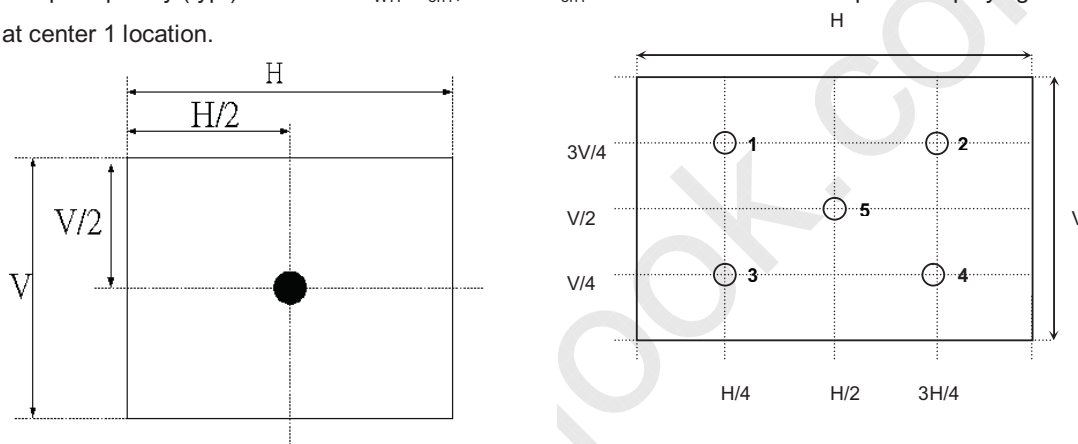

Fig.4-2 Optical measurement point
2. Surface luminance is luminance value at point 5 across the LCD surface 50cm from the surface with all pixels displaying white. From more information see Fig. 4-2. When  $V_{BL} = (1747V)$ ,  $I_{BL} = (104mA)$ . Lamp frequency (typ.) = 62 KHz.  $L_{WH} = L_{on1}$ , Where  $L_{on1}$  is the luminance with all pixels displaying white at center 1 location.